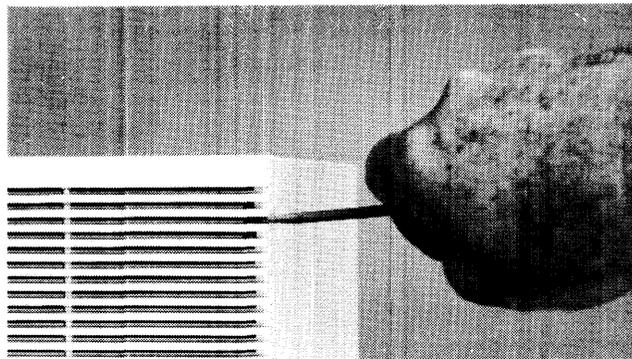

Figure 2-9. Releasing the Front Panel Catches
1. Using a thin blade flat-tip screwdriver, release the front panel catches on the right and left sides by pressing them inward as shown in Figure 2-9.